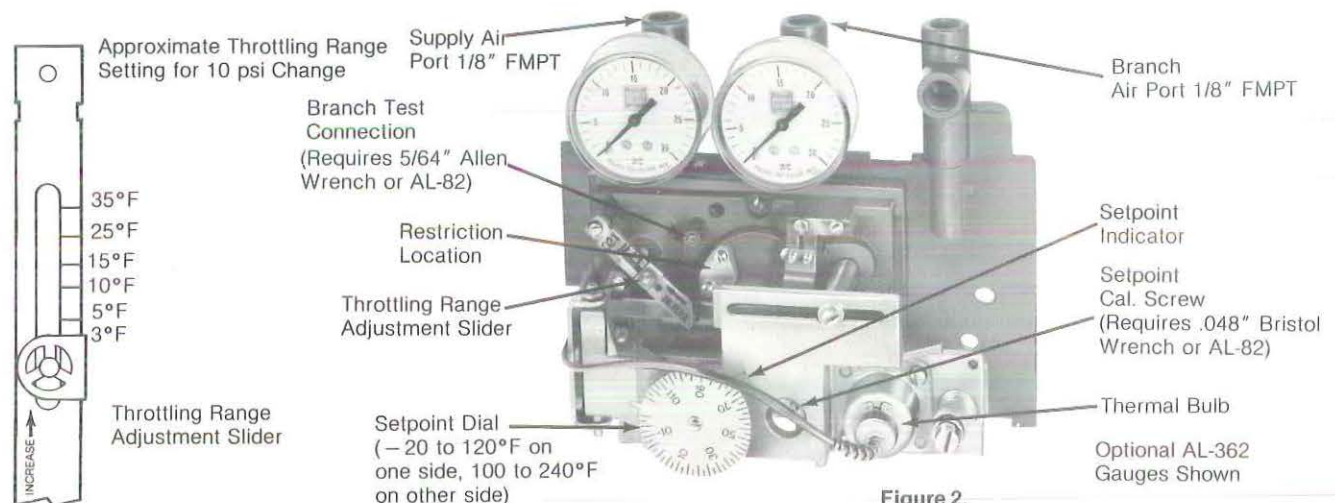

Figure 2.
The throttling range should be set at the lowest value which will allow the thermostat to control the system without cycling under normal load conditions. The most satisfactory setting will vary with the type of control system. The throttling range is changed by sliding the throttling range adjustment slider to its proper position. See Figure 2. Calibration of the thermostat should be checked after the throttling range has been changed. When making the throttling range adjustment, care should be taken to prevent excessive side forces on the feedback lever. In no case should the pivot point be raised when the adjustment is made.
1. Move slider to approximate position desired. (See Figure 2.)
3. Adjust setpoint calibration screw until 3 psig (RA) or 13 psig (DA) is read on branch gauge.
4. Rotate setpoint dial (CW) toward upper end of scale until 13 psig (RA) or 3 psig (DA) is read on branch gauge.
1. Using the branch gauges, or a separate test gauge connected to the branch test port*, rotate the dial (direct-acting (DA) — lower, reverse-acting (RA) — raise) in the appropriate direction. The branch pressure should raise to be the same as the supply pressure ± 1 psi.
***Note:** As shown in Figure 2, each thermostat is furnished with a branch test connection. If a test gauge is to be used at this connection, use a $5/64$ " Allen wrench to unscrew (counterclockwise) the test point screw one full turn before attaching test gauge.